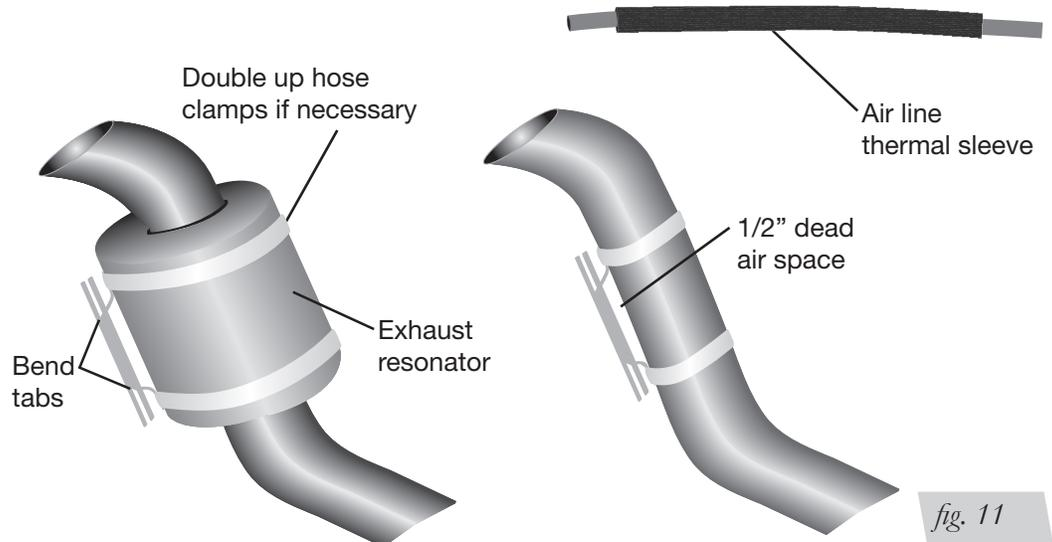

fig. 11
1. Attach the metal heat shield to the exhaust where it is closest to the side air spring. Slide the air line thermal sleeve over the air line and place it where the air line is closest to the exhaust. (Fig. 11).